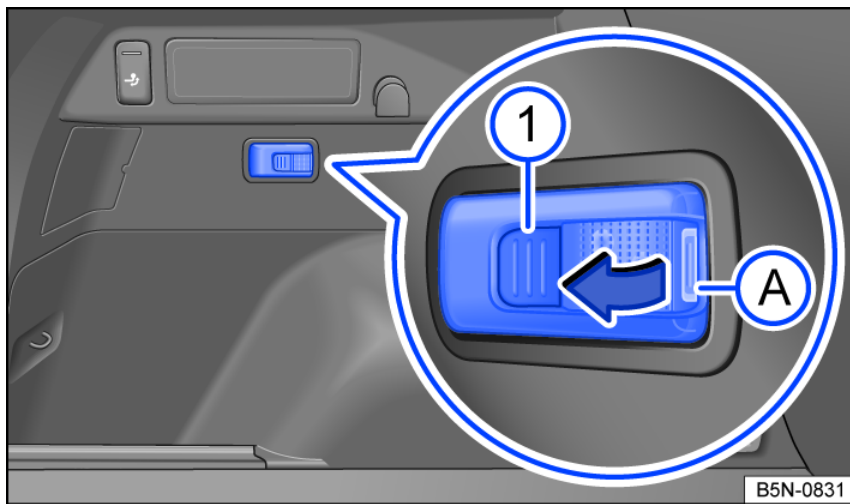

Fig. 161 In the luggage compartment (left-side): Removable luggage compartment light.
- Take hold of the removable luggage compartment light in the fig. 161 **A** area.
- Press the fig. 161 **1** button to switch on the light. The light will switch on at full brightness.
Switch off the removable luggage compartment light and push it into the bracket in the opposite direction to the arrow fig. 161.
- Remove the battery cover with a thin object below the fig. 161 **A** area.